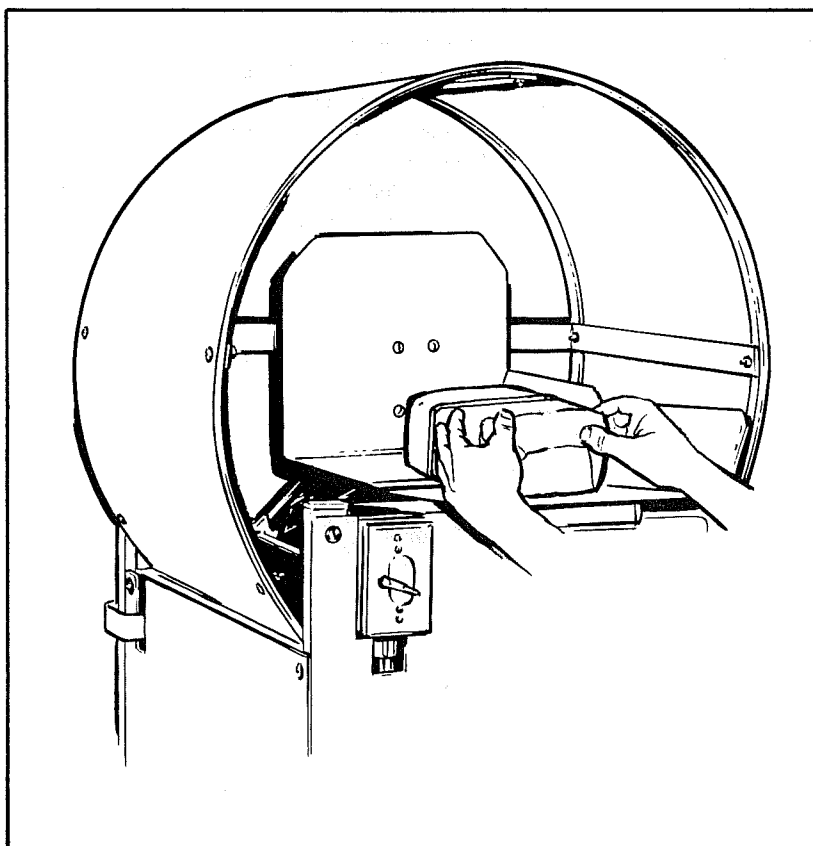

Figure 1. Positioning Package for Tying
3. Hold ends of package between thumbs and forefingers of both hands and position package on tying machine table so that right side of package is butted against standard or notch in front table (Figure 1) and positioned over gap between front and back tables.